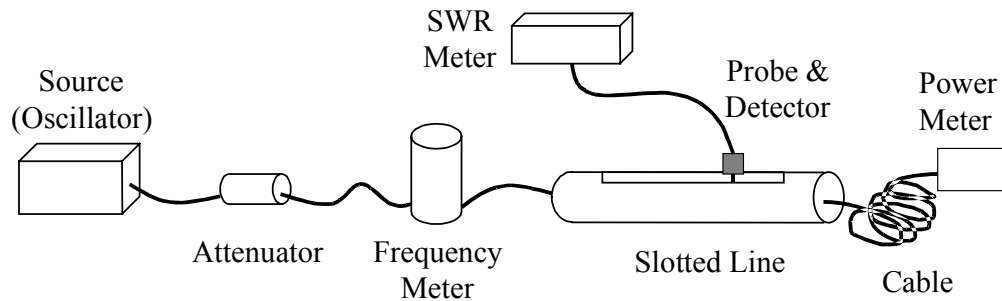

Figure 3: Test setup with coaxial cable with power meter.
- a. Refer to Figure 3. Calibrate the digital power meter as follows: